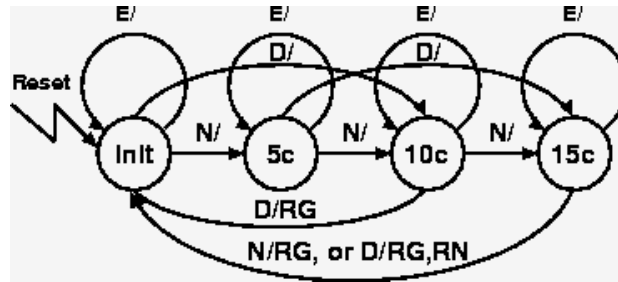

Figure 2: The State Diagram of the *iKon* Controller
The complete behavior of the *iKon* controller can be specified by the state diagram in Figure 2. To keep the state diagram clear and readable, those transitions caused by the reset input signal are not included. It is obvious though that if the reset input is asserted at any state, the controller will go to the initial state. In addition, only transitions that *explicitly* cause a state change, and the output in states where it is asserted, are included in the diagram. For example, the transition from state 15c to initial state is labeled with N/RG or $D/RG, RN$, which means that the transition can only happen in two cases (except when the reset is asserted): (1) if another nickel is deposited, then a package of gum is released, or (2) if a dime is deposited, then a package of gum is released and 5c (a nickel) is returned.